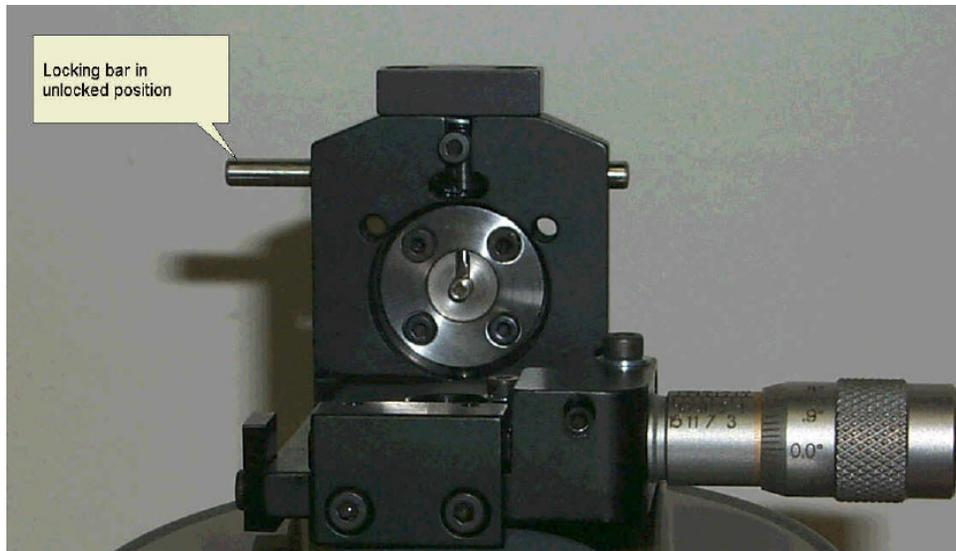

Figure 13. Chuck In Unlocked position.
- Ensure that the micrometer read out on the variable tilt stage (if fitted) is set to **exactly** zero degrees, or below zero degrees. Fully insert the connector to be tested into the fixture on the front of the ZX-1. If using a v-groove chuck fitted with a locking bar, ensure that the locking bar is in the released position before inserting the connector. After the connector has been inserted, slide the bar to lock the connector in position. See figures 13 and 14 for details on the use of this type of chuck.